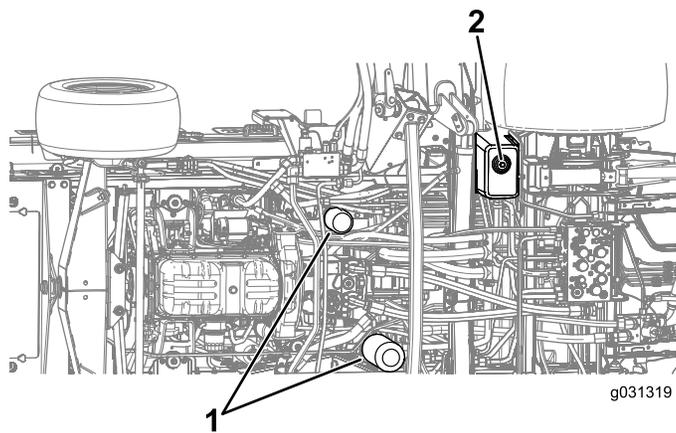

Figure 135
4. Remove the drain plug from the bottom of the tank and let the hydraulic fluid flow into the pan (Figure 135).
7. Place a drain pan under the filter and remove the filter (Figure 135).